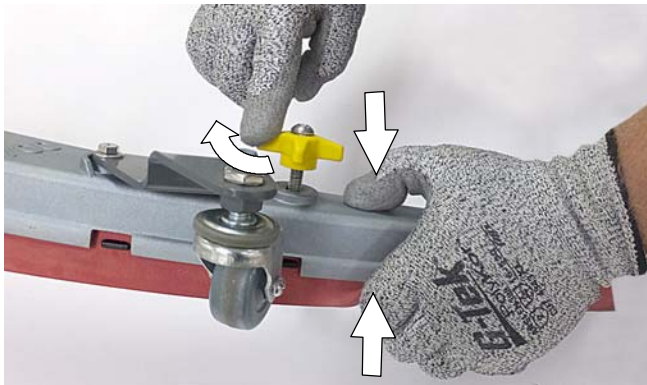

FIG. 139
5. Squeeze the squeegee frame and blade retainer together and re-tighten the two outside knobs (Figure 139).